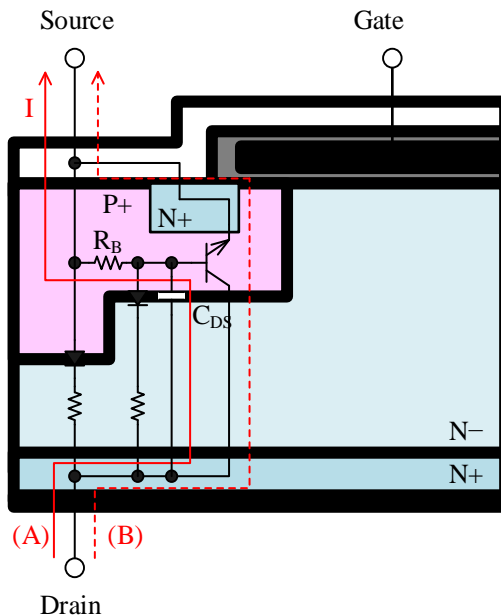

Figure 2-13. Section View of a Planar Power MOSFET (N-channel)
As shown in Figure 2-13, a power MOSFET generates parasitic capacitance, C_{DS} , between drain and source.
As shown in (A) in Figure 2-13, the current, I , flows at the power MOSFET turn-off. The current, I , can be calculated by the following equation.
At this time, a voltage ($R_B \times I$) is generated across the base resistor, R_B , of the parasitic NPN bipolar transistor. When this voltage exceeds the base-to-emitter voltage that turns on the parasitic NPN bipolar transistor, a current flows as shown in (B) in Figure 2-13. As a result, the destruction capability is decreased.